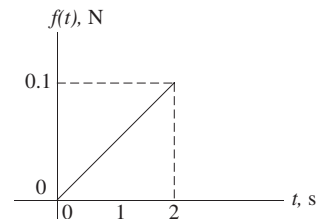

Figure P10.39 Applied force for resistive training device for problem P10-39.
- Determine the steady-state solution $y_{ss}(t)$ for the applied force shown in Fig. P10.39.